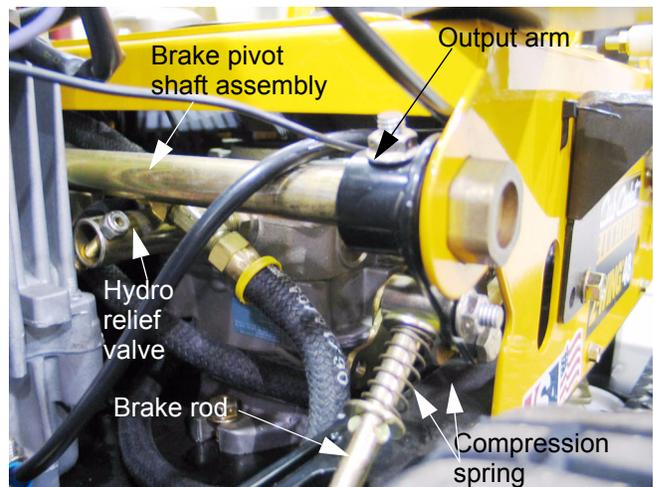

Figure 21.8
- 21.8. The brake rod is moved by an output arm attached to the brake pivot shaft assembly. There is a compression spring on each side of the contact point. Tightening the nut puts more pressure on those springs, loosening the nut reduces the pressure on the springs. See Figure 21.8.